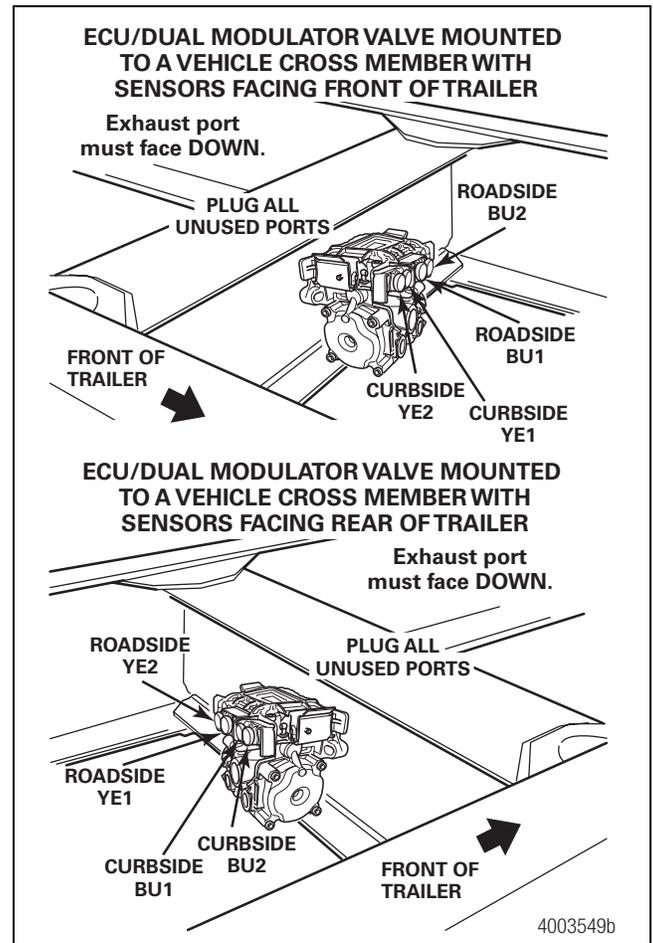

Figure 3
- Use two 3/8-inch Grade 8 bolts with prevailing torque nuts and washers to attach the assembly to the vehicle cross member. Tighten the bolts to 18 lb-ft (24 N•m). Figure 3.